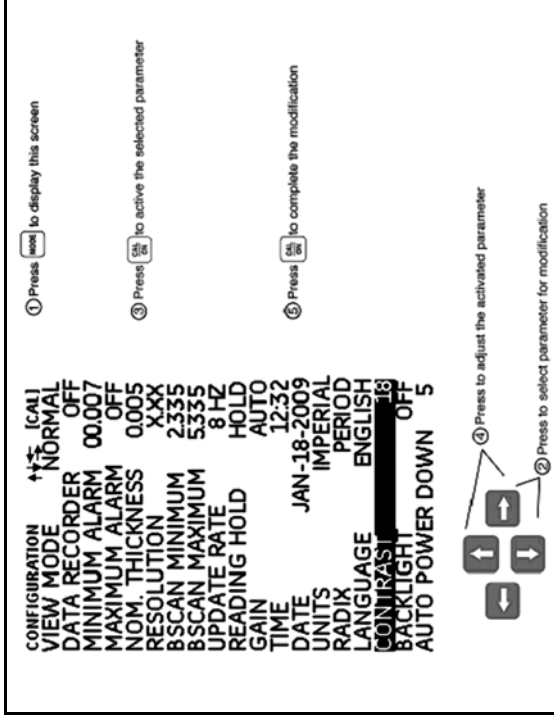

Figure 9: The Configuration Menu
Before using the DM5E, the parameters listed on the next page must be programmed at the *Configuration* display (see *Figure 9*) as follows:
1. Press  to access the *Configuration* display (see *Figure 9 on page 21*).
1. Press  to access the *Configuration* display (see *Figure 9* on page 21).